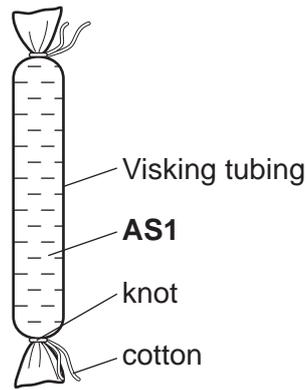

Fig. 1.1
- Pull the slip knot tight see Fig. 1.1.